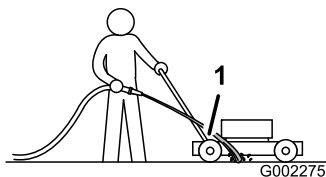

Figure 36
3. Hold the running garden hose at handle level and direct the water to flow on the ground just in front of the right, rear wheel (Figure 36).